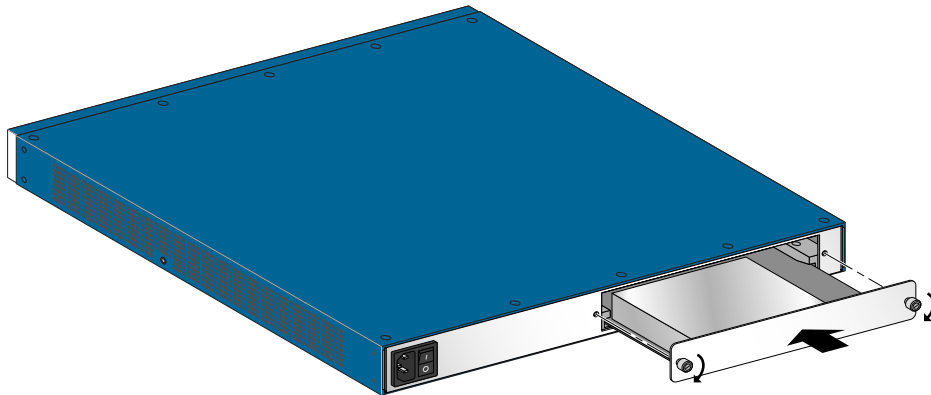

Figure 5. Hard Disk Drive Replacement
2. Unscrew the hard disk drive tray thumbnail screws on the back of the firewall (Figure 5).